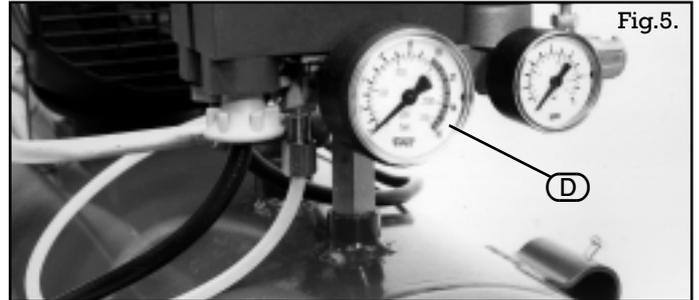

Fig.5.
5. To stop the compressor turn the pressure switch to the OFF position. Do not switch off at the power supply before switching off at the machine. See Fig.5.
The amount of air pressure inside the receiver is indicated by the gauge (D) Fig.5.